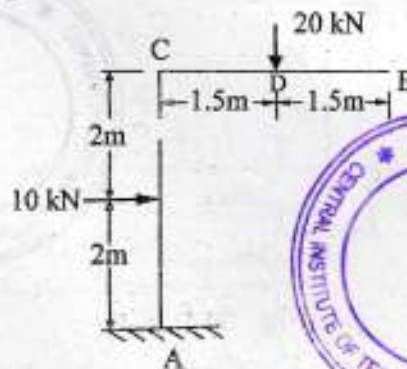

Fig. 7
4. Determine the vertical and the horizontal, deflection at the free end of the bent shown in figure 7. Assume uniform flexural rigidity EI throughout. Use unit load method. 20